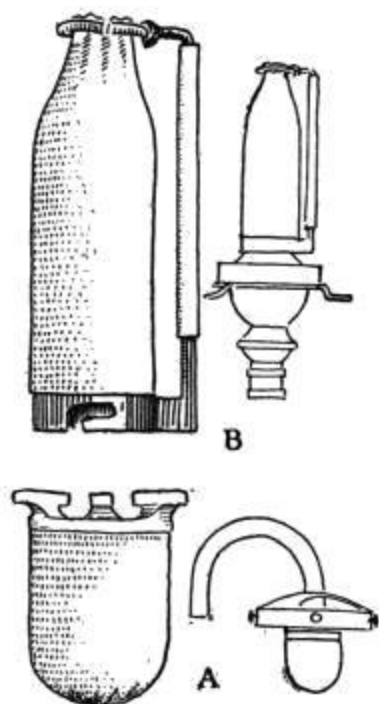

FIG. 48. Mantles.
94. Construction of Mantles. A mantle is a device made of thread saturated with some fireproof material like a mixture of thorium and cerium which will glow, giving off a white light when heated hot. The mantle (A and B, Fig. 48) is placed over the burners of lamps using liquid or gaseous fuel. The gas is mixed with air so that it burns with a blue flame. The blue flame gives off little light, but it does not smoke and is much hotter than a yellow flame. When a mantle is placed over the blue flame, it is heated with less fuel consumption than is required to make a yellow illuminating flame. The light from the glow of the mantle is steadier and whiter than the light from an open flame, so that it is more hygienic.